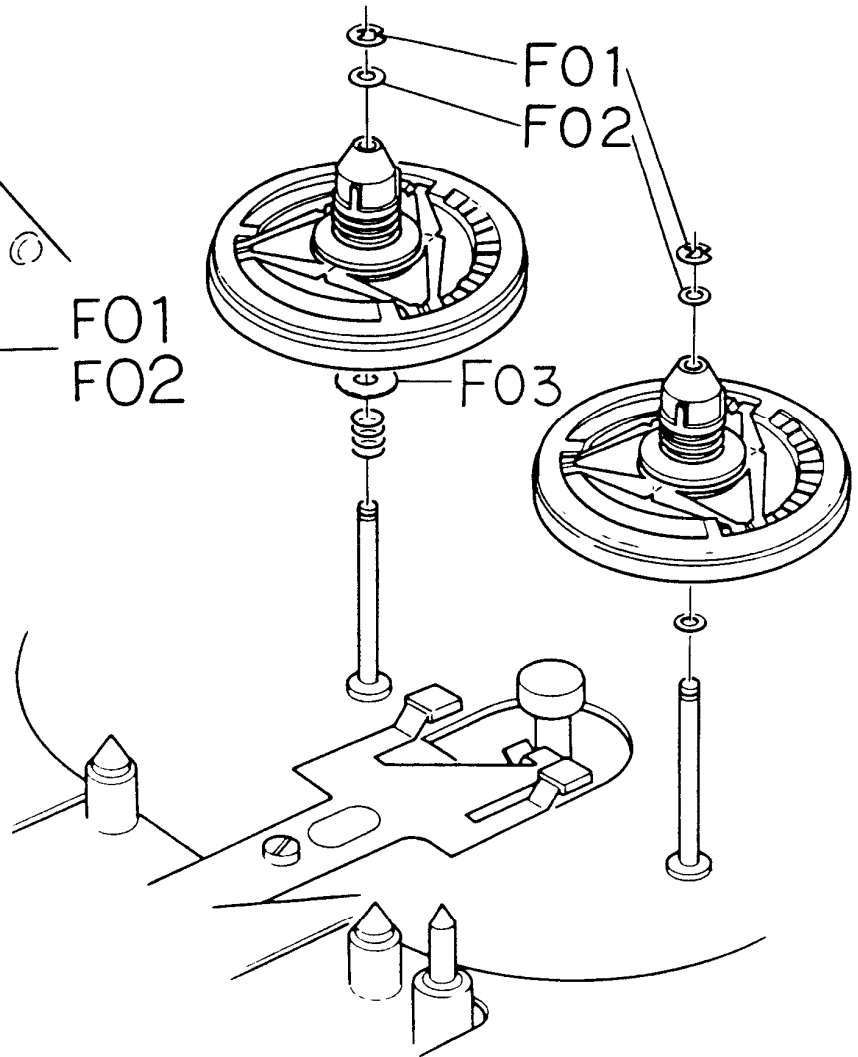

Fig. 2
5. Dismount both reel hubs of supply side and take-up side by removing the E-ring from the top of the reel hubs. Refer to Fig. 2. Then replace them with new reel hub assemblies.